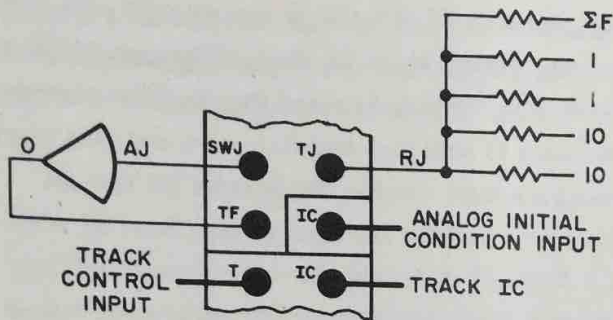

Figure 2.3. Track/Store Patching (Typical)
Figure 2.3 shows typical track/store patching. The T (Track) patch terminal controls the operation of the unit. A high at this point causes the unit to track. A low forces it to the store mode. The (T) IC (Track IC) patch terminal, when patched high, overrides the T input and energizes relay K1. When energized, a set of contacts on K1 connects the TJ input to the D/10 output which permits amplifier derivative readout. A second set of contacts connects the IC patch terminal through 10k resistors to the store capacitors which permits charging the capacitors to the IC level.